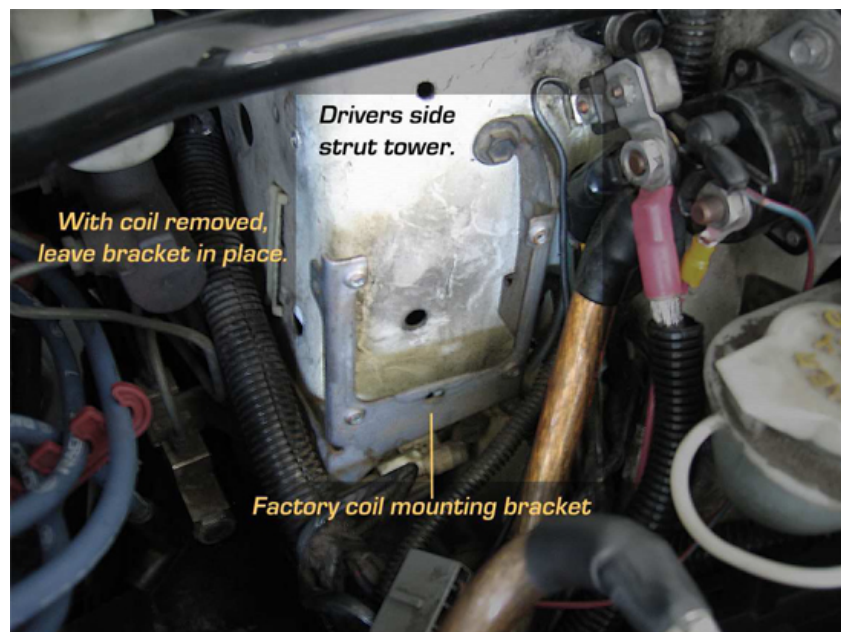

Fig 4a
8. If you are going to relocate the new coil, remove the bracket and mount it in its new place. – I chose to use the stock mounting location for the Accel Coil, so I left the bracket in place. (See: Fig4a)